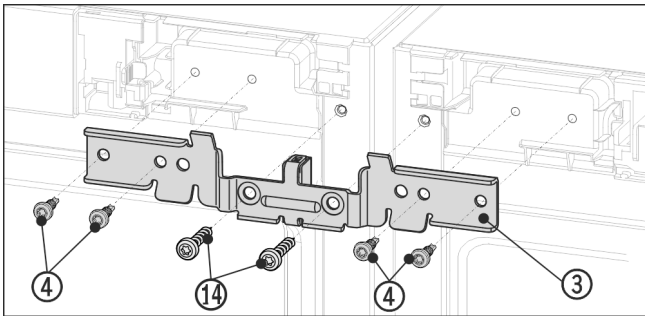

Fig. 12 Example illustration
- ▶ Slide the bracket Fig. 12 (3) onto the pins with the spacer between the appliances. Loosely screw in the brackets alternately right and left with four screws Fig. 12 (4) and the previously removed earthing screws Fig. 12 (14).